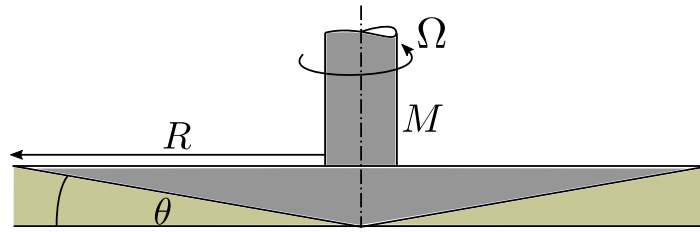

Figure 4: Cone-plate viscometer.
7. The device show in figure 4 is called a cone-plate viscometer. The angle of the cone is very small and the gap is filled with the test liquid. The torque M is required to rotate the cone at a rate Ω is measured. Assuming a linear viscosity profile in the fluid film, derive an expression for the fluid viscosity μ as a function of M, R, Ω, θ .